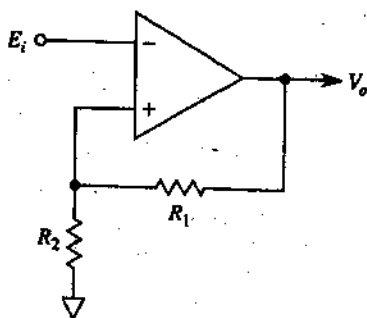

FIGURE P4-2
- 4-2. In Fig. P4-2,  $R_1 = 25 \text{ k}\Omega$ , and  $R_2 = 5 \text{ k}\Omega$ . Assume for simplicity that  $\pm V_{\text{sat}} = \pm 15 \text{ V}$ . Calculate (a)  $V_{UT}$ ; (b)  $V_{LT}$ ; (c)  $V_H$ .